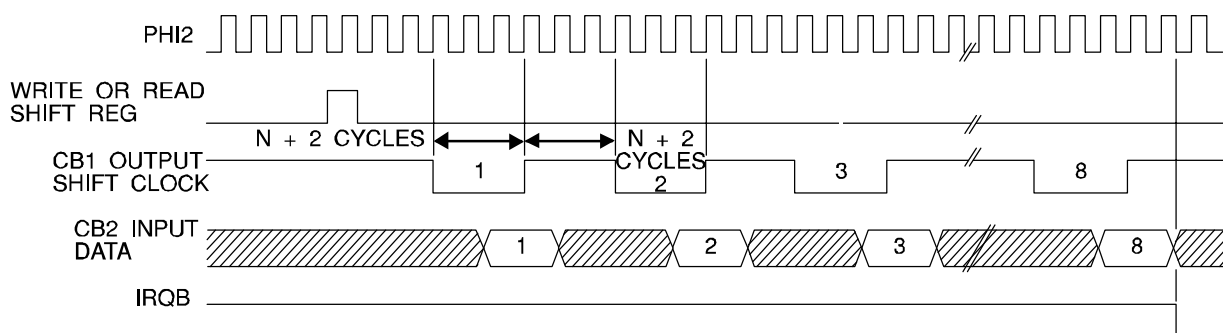

Figure1-6 Shift In - Counter T2 Control
The Shift Register (SR) performs bi-directional serial data transfers on line CB2. These transfers are controlled by an internal modulo-8 counter. Shift pulses can be applied to the CB1 line from an external source, or (with proper mode selection) shift pulses may be generated internally which will appear on the CB1 line for controlling external devices. Each SR operating mode is controlled by control bits within the ACR. See Table 1-10 for control bit information. See also Figures 1-6 through 1-12.
In this mode, the shifting rate is controlled by the low order eight bits of counter T2. Shift pulses are generated on the CB1 line to control shifting in external devices. The time between transitions of the CB1 output clock is determined by the PHI2 clock period and the contents of the low-order T2 latch (N). Shifting occurs by writing or reading the SR. Data is shifted into the low-order bit first, and is then shifted into the next higher order bit on the negative-going edge of each clock pulse. Input data should change before the positive-going edge of the CB1 clock pulse. This data is then shifted into the SR during the PHI2 clock cycle following the positive-going edge of the CB1 clock pulse. After eight CB1 clock pulses, IFR2 will set and IRQB will go to a Logic 0. See Figure 1-6.